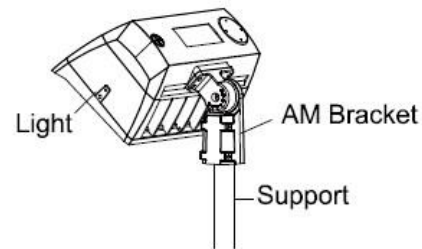

Figure 8
- Step 2. Loosen the adjustment bolts to align the fixture to the desired angle, then tighten the bolts once fixture is positioned (Figure 8).